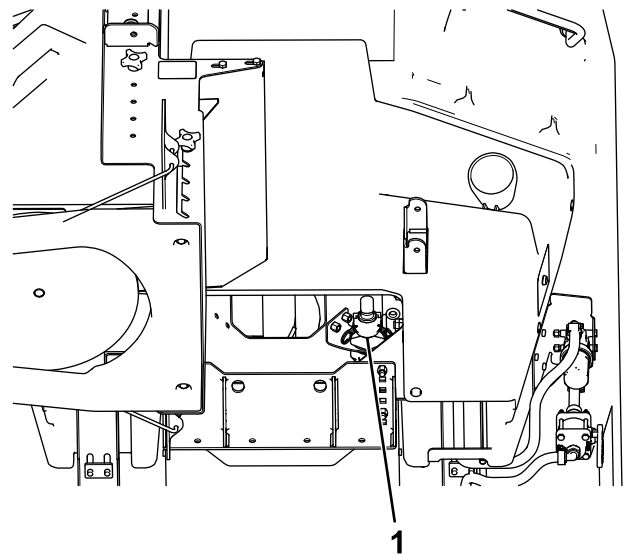

Figure 57
6. Locate the spray nozzle underneath the rear cover (Figure 57).